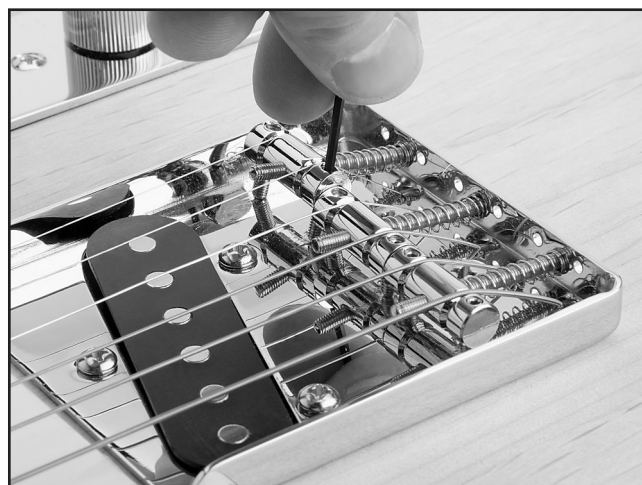

Figure 34. Adjusting string height.
3. Use the included 1.5mm hex wrench to adjust the saddle height setscrews (**Figure 34**) until the string heights are correct.